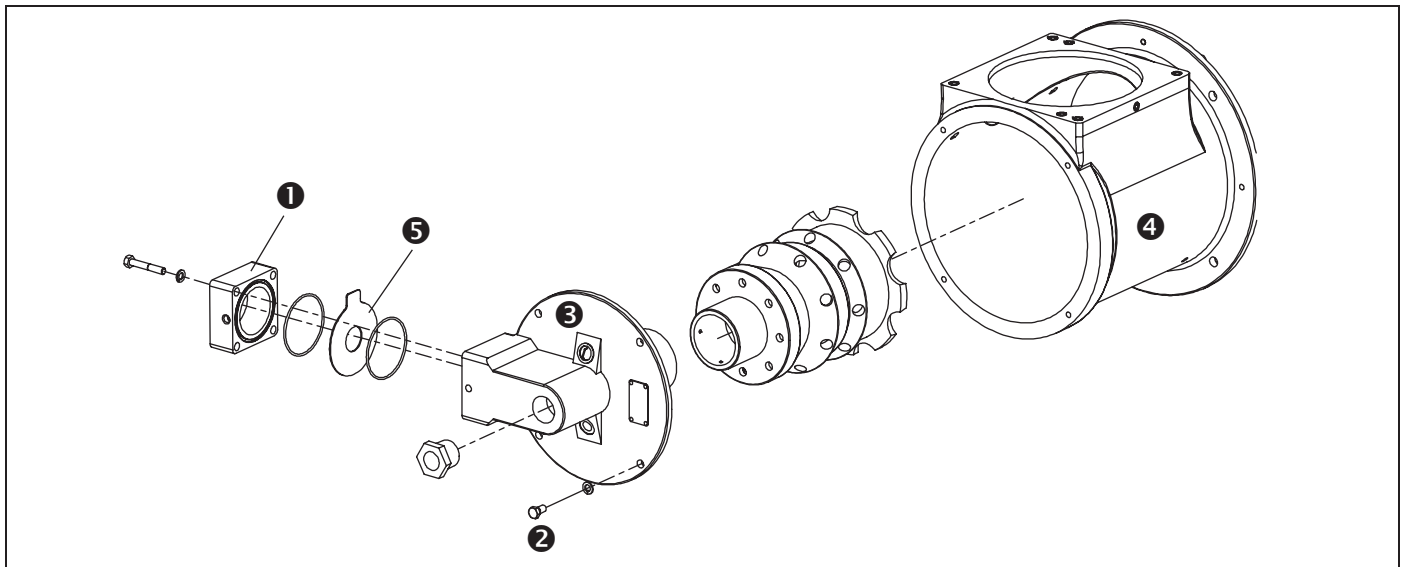

Figure 5.1.
6. Remove and clean the orifice plate ⑤, see Figure 5.1.
The nozzle and combustion tube/block can be inspected without removing the burner from the chamber wall or entering the chamber. See Figure 5.1. Perform the following: